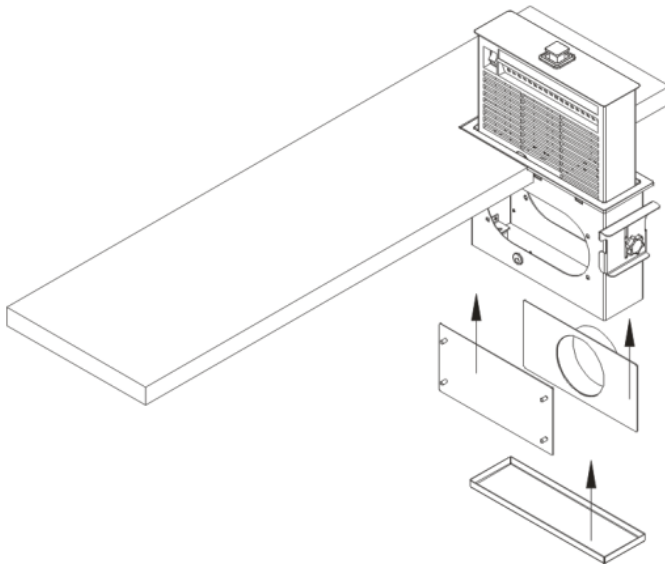

Fig. 11.1 – Installation of Blank-Off Plate and Outlet Flange
- 5.11 Remove the Access Cover, which is secured by two magnets, from the bottom of the unit. There are two (2) Outlet Ports on the unit, with one on each side of the Housing. Generally, one shall be blanked-off and the other used for connection with a duct to the HealthyAir® Air Purification System. Install the Blank-Off Plate on one side and the Outlet Flange on the other side, by passing them thru the opening at the bottom of the Housing, as shown in Fig. 11.1, and mounting them on the (4) Stud Screws, respectively. Using the Hex Nuts, tighten and secure the Outlet Flange and the Blank-Off Plate. Finally, reinstall the Access Cover.